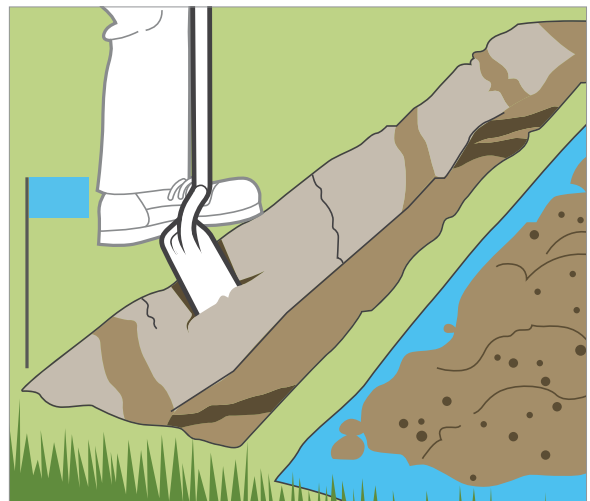

Figure 2
4. Trenching: Check local codes. If there are no established local codes for sprinkler main line depth in your area, trench 10" to 12" deep. Trench 6" to 8" for lateral lines. Trenching can be done by hand or with a trencher. Trenchers are available at most equipment rental yards Figure 2.